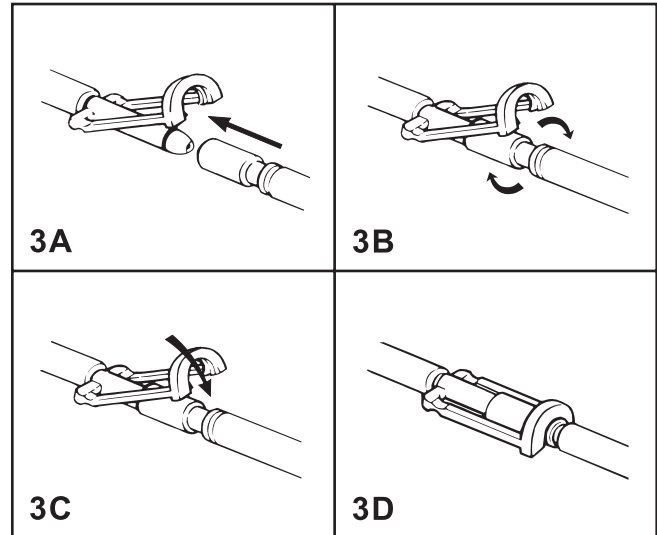

Figure 3—Clik-Tite® Connectors
| Attached Hose | 10 ft (305 cm) dual hose. Connectors allow pads to be connected to the pump (see figs. 3 and 4, p. 5). |
1. Before filling the pump, always attach a pad to the connector hose or close the clamps on the connector hose ends (see figs. 3 and 4, p. 5). Then, unkink pad and hose. Open hose clamps.
| | 2. Locking ring on Clik-Tite connector is not snapped into place (see fig. 3). | Snap Clik-Tite locking ring shut. |